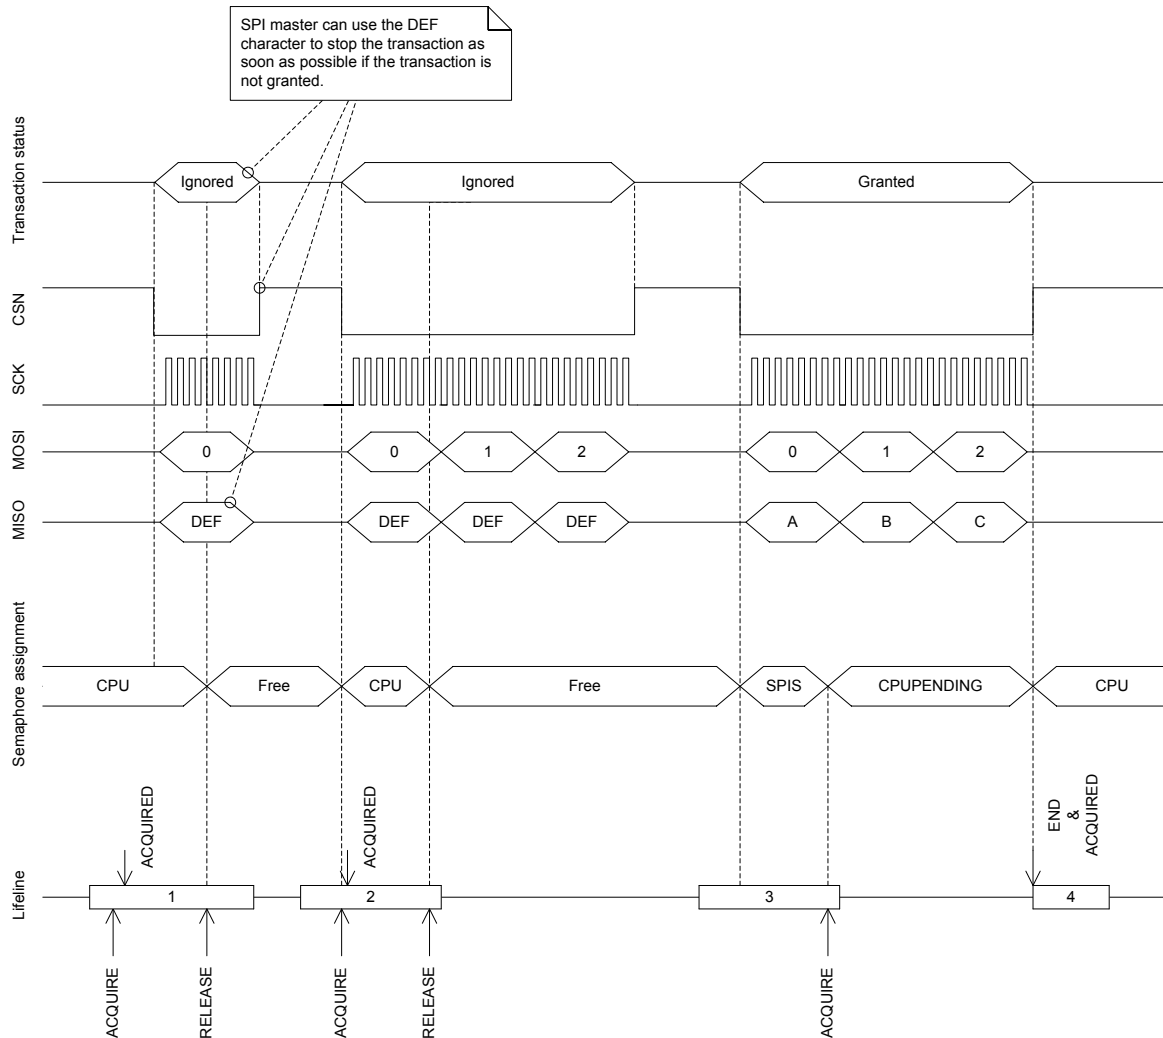

Figure 84: SPI transaction when shortcut between END and ACQUIRE is enabled
See Figure 84: SPI transaction when shortcut between END and ACQUIRE is enabled on page 356.
Before the CPU can safely update the RXD.PTR and TXD.PTR pointers it must first acquire the SPI semaphore. The CPU can acquire the semaphore by triggering the ACQUIRE task and then receiving the ACQUIRED event. When the CPU has updated the RXD.PTR and TXD.PTR pointers the CPU must release the semaphore before the SPI slave will be able to acquire it. The CPU releases the semaphore by triggering the RELEASE task. This is illustrated in Figure 84: SPI transaction when shortcut between END and ACQUIRE is enabled on page 356. Triggering the RELEASE task when the semaphore is not granted to the CPU will have no effect.
The SPI slave will try to acquire the semaphore when CSN goes low. If the SPI slave does not manage to acquire the semaphore at this point, the transaction will be ignored. This means that all incoming data on MOSI will be discarded, and the DEF (default) character will be clocked out on the MISO line throughout the whole transaction. This will also be the case even if the semaphore is released by the CPU during the transaction. In case of a race condition where the CPU and the SPI slave try to acquire the semaphore at the same time, as illustrated in lifeline item 2 in Figure 84: SPI transaction when shortcut between END and ACQUIRE is enabled on page 356, the semaphore will be granted to the CPU.